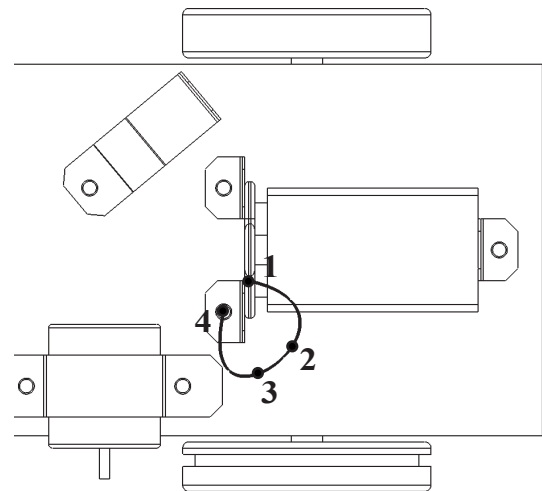

Fig. 19
Step 5. Click the 4 Points in **Fig. 19** to draw a spline for the wire between the **left L-Bracket and the left side of battery clip**. Press **Escape** key to end the spline.